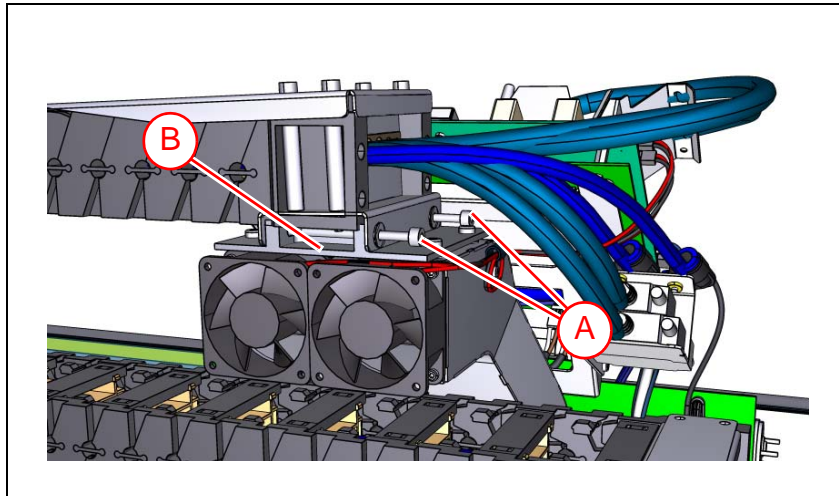

Figure 5-36. Attach cable chain to X wagon.
6. Use two long screws ('A' in Figure 5-36) to attach the X wagon end of the cable chain to the bracket ('B') on the *Fan holder unit* on the X wagon.